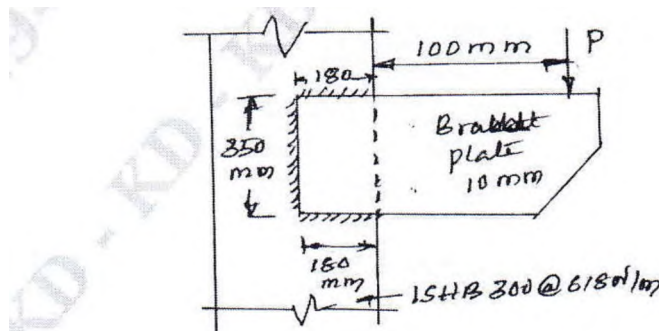

Fig.Q4(b)
- b. Determine the bracket load that can resisted by the bracket shown in Fig.Q4(b) by fillet weld of size 8mm. (10 Marks)